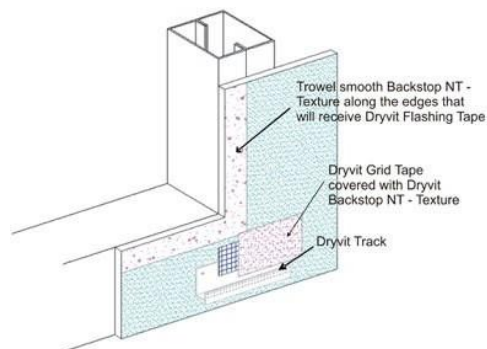

Fig. 18
- d. While the Backstop NTX - Texture is still wet, using a trowel or spatula, smooth out the Backstop NTX - Texture around all window and door perimeters and other areas - Figure 18.
- d. While Backstop NTX - Texture is still wet, using a trowel or spatula, smooth out the Backstop NTX -Texture around all window and door perimeters and other – Figure 18.